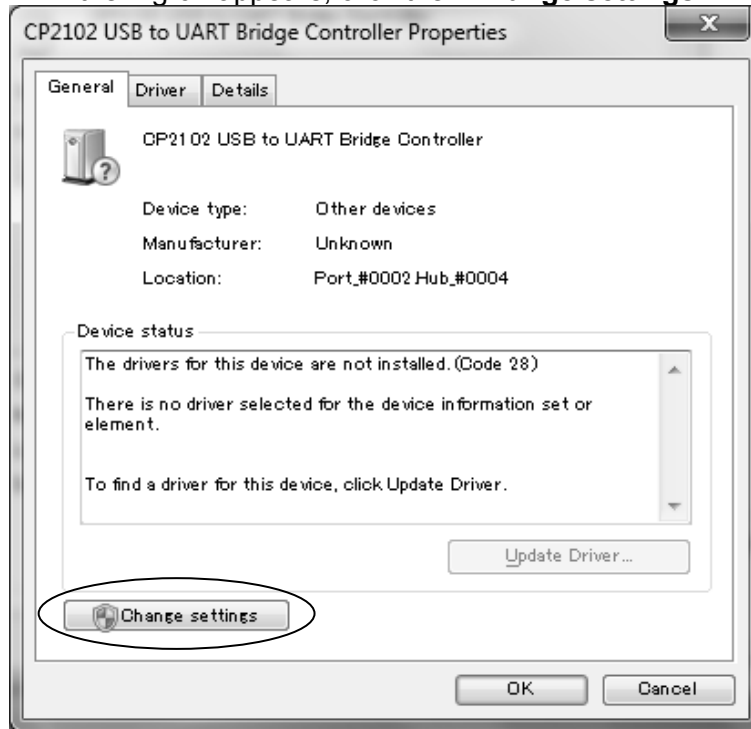

Fig. 61 Controller Properties
(11) The screen shown in the Fig.61 appears, click the **"Change settings"**.